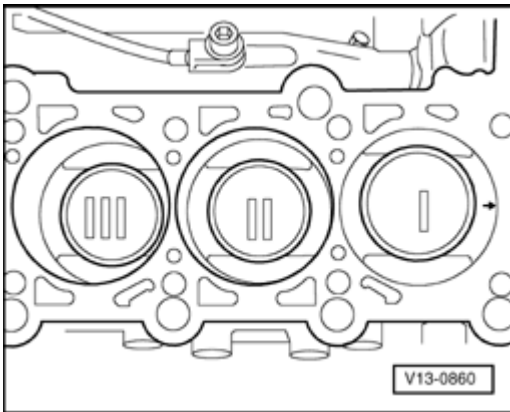

Fig. 197: Piston Installed Position And Application Piston/Cylinder
- Installed position and allocation piston/cylinder. See **Fig. 197**